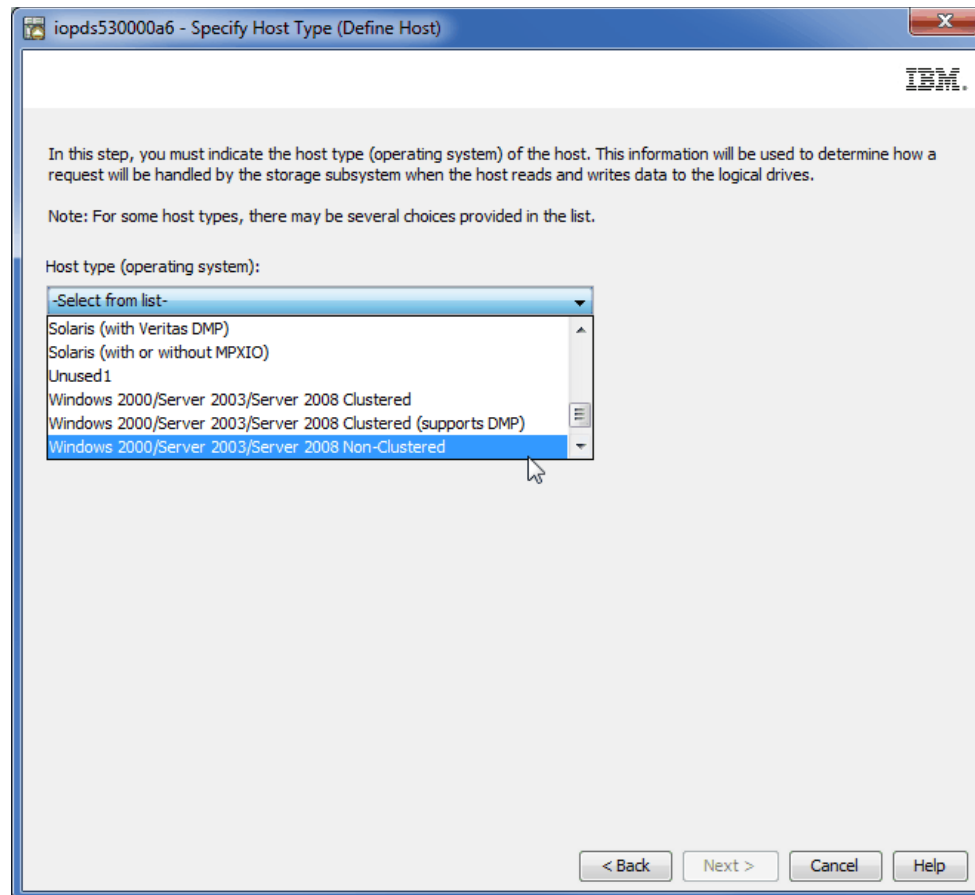

Figure 2-65 Selection of the host type
6. We now need to define what type of host this will be. It is used by the storage subsystem to understand how to present the storage to the host operating systems. It is important to define the correct host type. There are several other common operating systems available from the drop-down box. In our example, we are going to install Windows 2008 R2. This choice will be applied only for this host as shown in Figure 2-65.